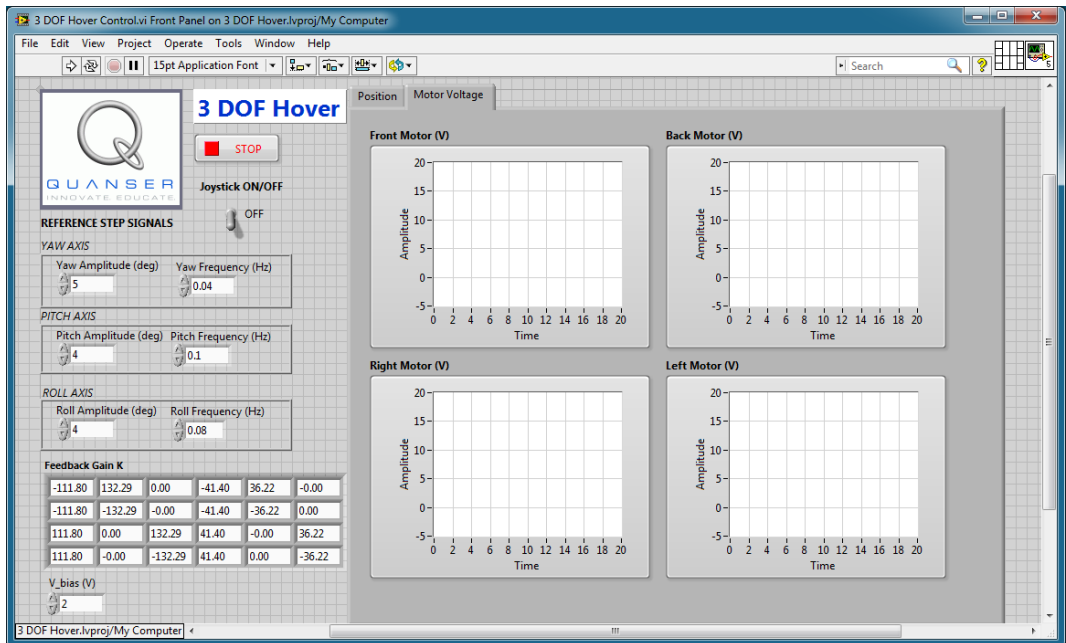

Figure 3.5: VI used to run controller on the 3 DOF Hover.
The VI shown in Figure 3.5 is used to perform the balance control on the 3 DOF Hover. The VI interface with the DC motor and encoders of the 3 DOF Hover system.
3. Open the *3 DOF Hover Control.vi*, shown in Figure 3.5.
8. The desired angle can be also be generated using a USB joystick described in 3 DOF Hover User Manual ([1]). To use the joystick, set the Manual Switch shown in Figure 3.5 to the ON position. The rate at which the desired angle increases or decreases given a joystick position can be changed in the joystick sub-VI via the